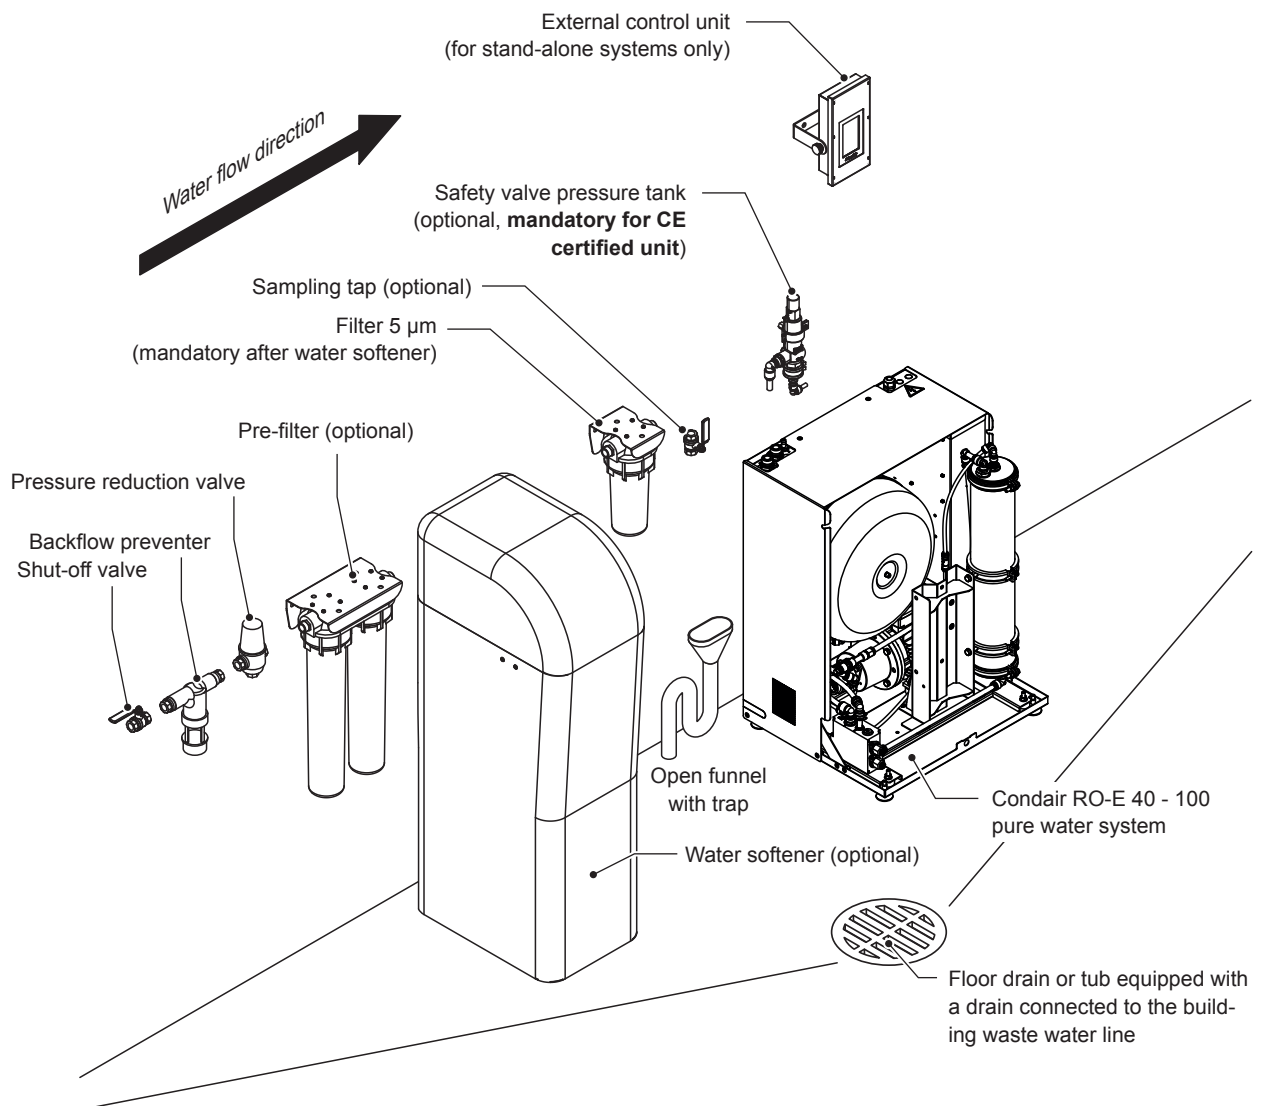
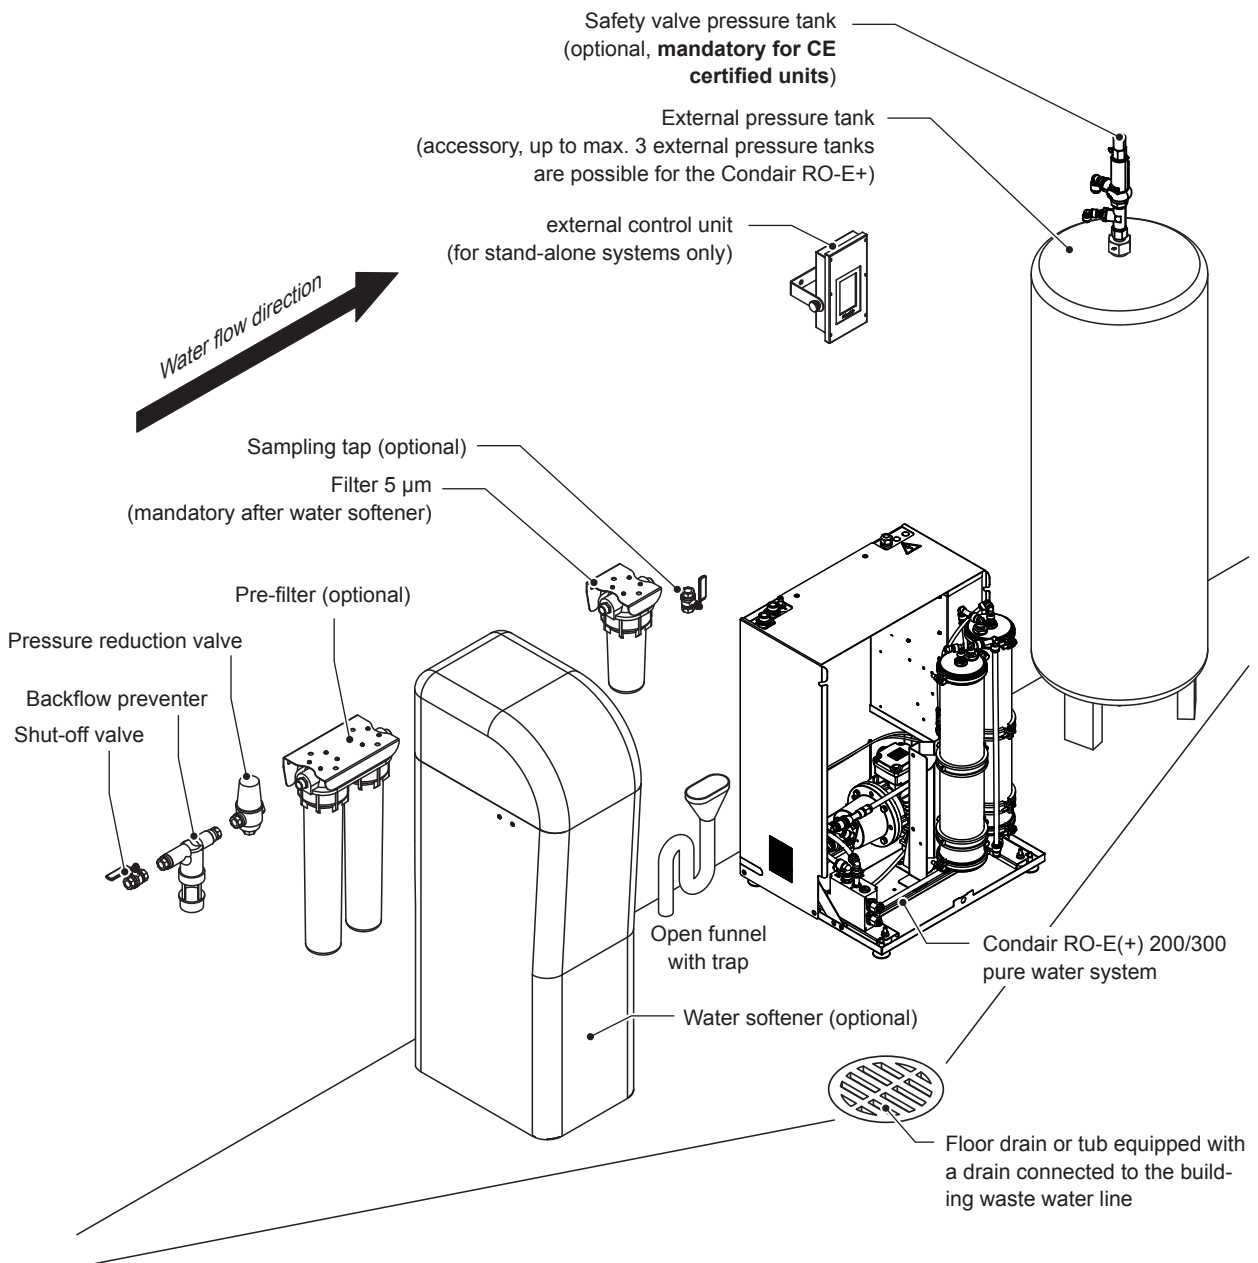

Fig. 4: Positioning of the system components for **Condair RO-E 40/100** pure water systems
Fig. 7: Positioning of the system components for **Condair RO-E+ 200/300** pure water systems with external pressure tank
- The components upstream of the Condair RO-E(+) pure water system (shut-off valve up to and including test cock) must be installed in the sequence shown in Fig. 4 bis Fig. 7.
mounted on the wall to the left of the center of the pure water system and approximately 150 mm above the unit, see Fig. 4
Connected directly to the upper connection of the (first) pressure tank, see Fig. 7